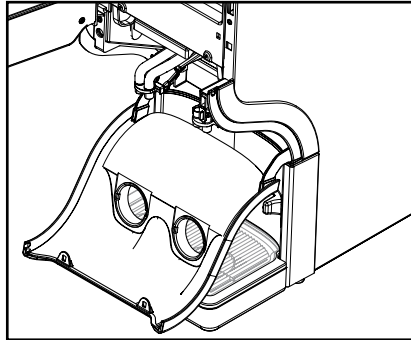

Fig. 25
- b. Pull the outlet cover down (fig.25).